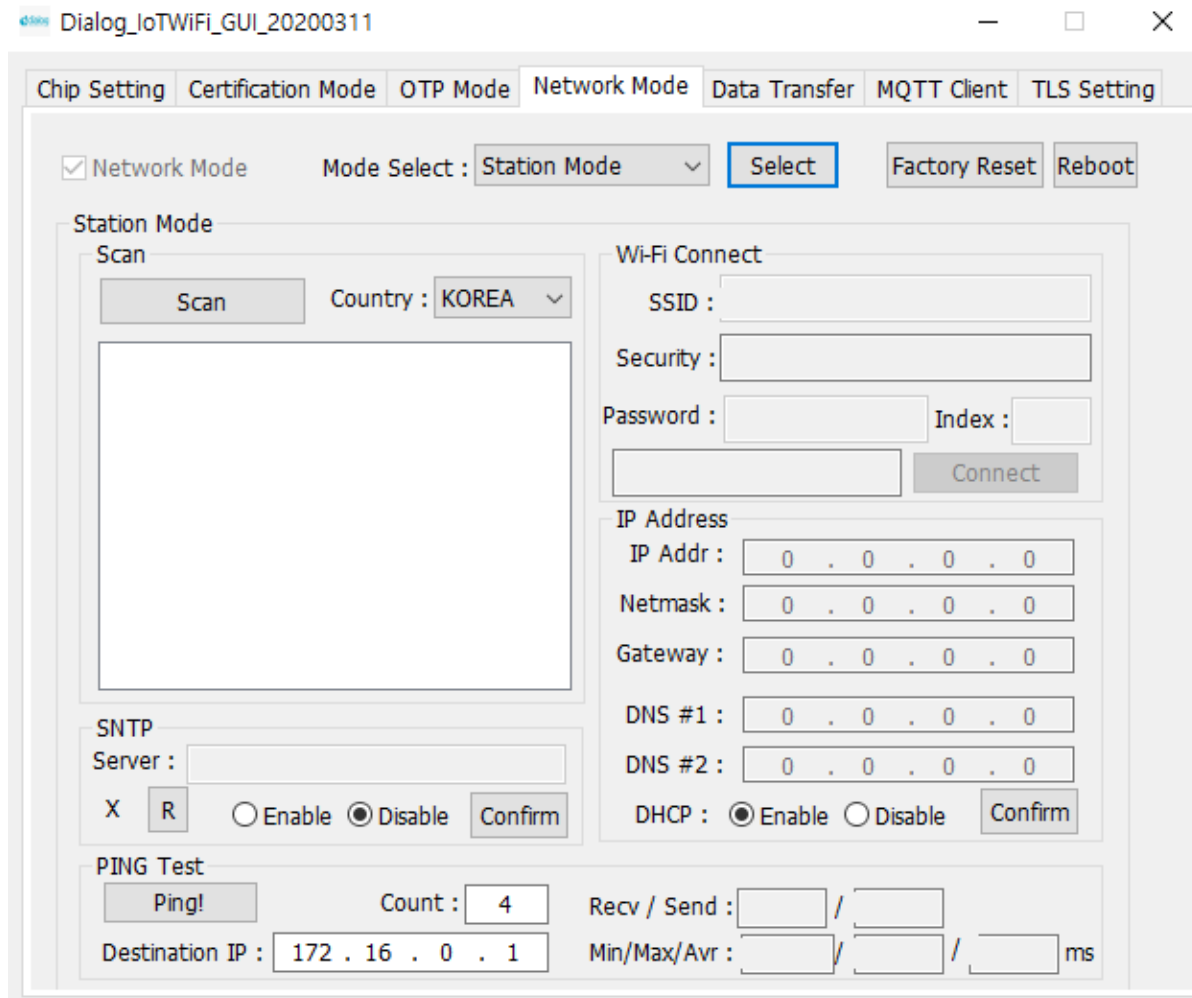

Figure 17: Setup Window - Station Mode
- The network mode is changed. Next, DA16200 reboots and the station mode setup window opens. See Figure 17.